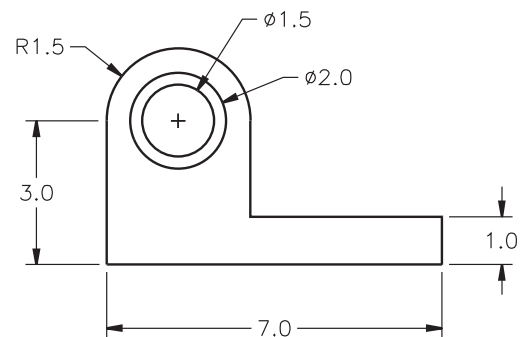

Fig. 10-6
2. Create a new drawing and set running snap modes for **Center** and **Endpoint**. Then create the shaft bearing in Fig. 10-6 using the dimensions shown. Start the lower left corner of the drawing at absolute coordinates **1,1** and work counterclockwise. Save the file as **shaftbearing.dwg**.